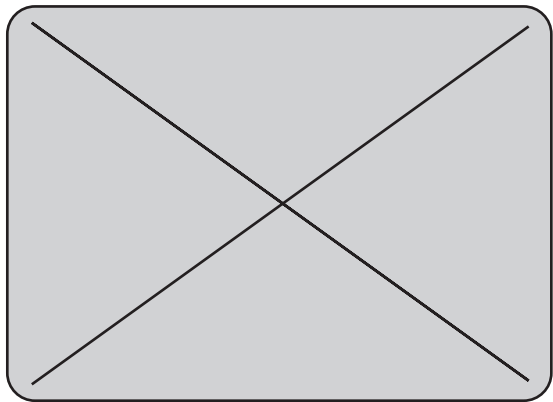

Figure 4.15
- Thread the film in the camera and mark the exact frame where you start, using a permanent felt-tip marker (see Figure 4.15).